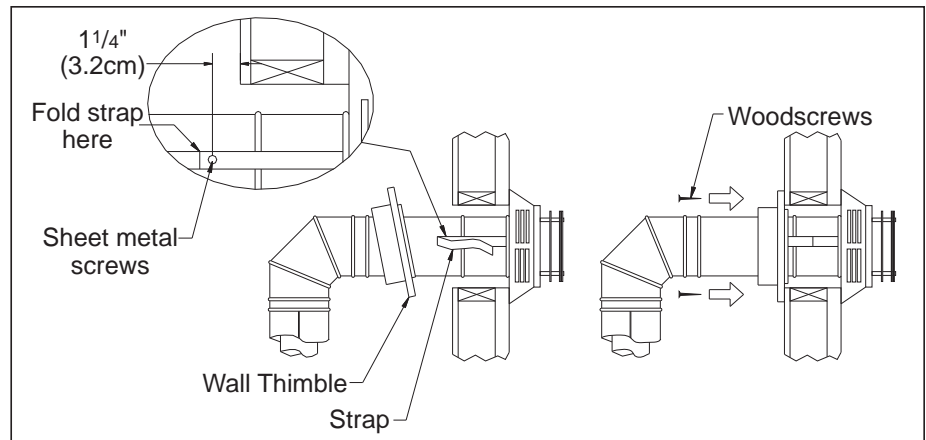

Figure 25: Installing Decorative Wall Thimble.
3. With the pipe attached to the stove in the correct location, mark the wall for a 10" (25.4cm) x 10" (25.4 cm) square hole (refer to Figure 25). The center of the square hole should match the center line of the horizontal pipe. Cut and frame the 10" (25.4cm) x 10" (25.4cm) hole in the exterior wall where the vent will be terminated. Refer to Figure 25. If the wall being penetrated is constructed of non-combustible material i.e. masonry or concrete, a 7" (17.8cm) hole is acceptable.